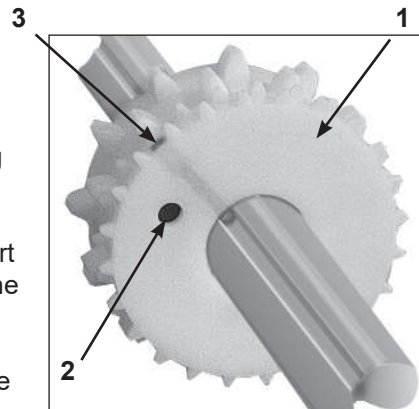

Fig 10
For sowing fine seeds the Orchard Seeder is equipped as standard with a combined normal and fine seed "Elite" metering wheel (1). During grain sowing and other larger varieties of seed both the normal and fine seed metering wheels are coupled and both rotate. In order to convert the seed drill to sow fine seed insert the crank handle and rotate clockwise until the holes (2) of the fine seed wheel are visible (Fig 10).
CAUTION Care should be taken when tightening the grub screws on the fine seed wheel (Page 20, Fig 10/3). Adjust the grub screw until the movement of the metering wheel just stops, then tighten no more than 1/8 of a turn.